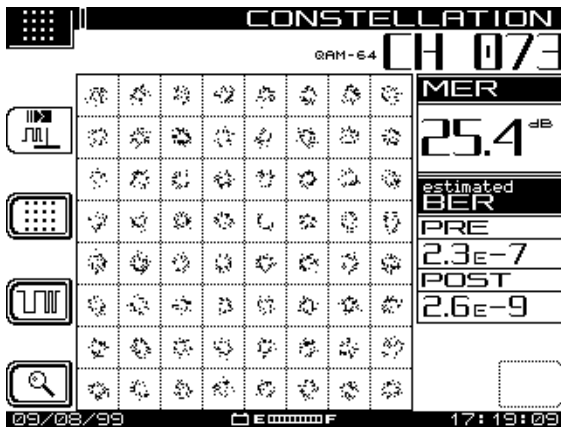

Fig. 9-14 Coherent Interference Impairment
**Coherent interference impairments** -- such as CTB, CSO, and spurs -- cause the dots on the graph to cluster with an empty space in the middle (see Fig. 9-14).